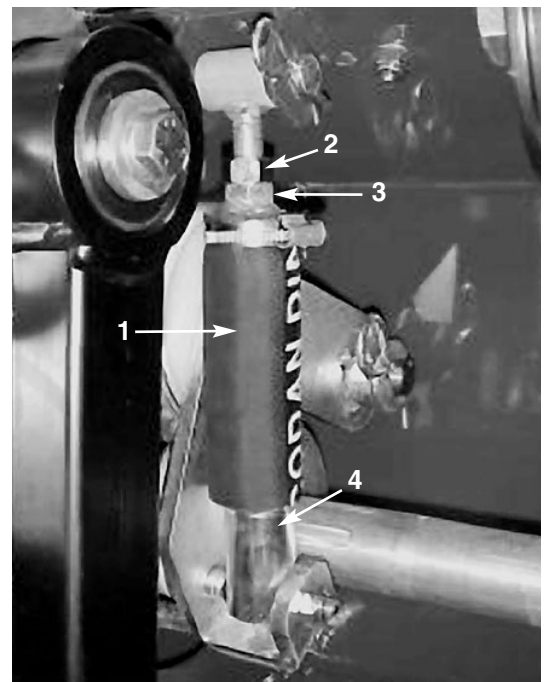

Figure 30
- A. Loosen the jam nut securing the idler tube to the tensioner arm (Fig. 30).